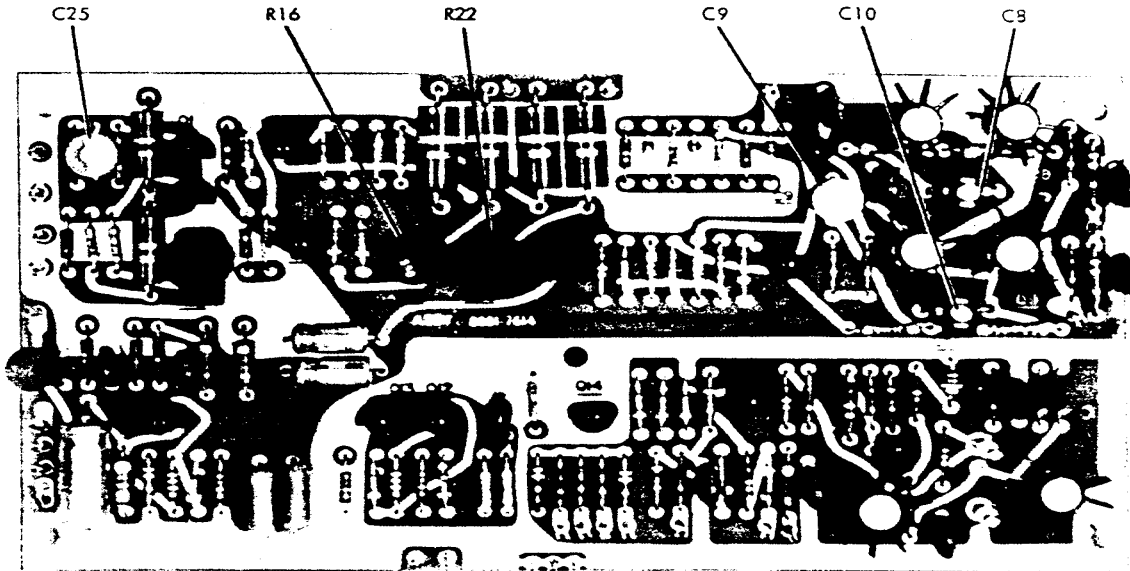

Figure 7. Horizontal sweep, adjustments and test point locations.
- (1) Connect oscillator (A4) to TI EXT HOR input, using cable (B4).
- (2) Set both TI SOURCE switches to EXT.
- (3) Adjust oscillator frequency for 50 kHz and amplitude for 6 divisions of deflection on crt.
- (4) Adjust oscillator frequency until crt displays 4.25 divisions of deflection. If oscillator does not indicate 5 MHz or greater, perform **b** below.
b. Adjustments. Adjust C25 (fig. 7) until crt indicates at least 4.25 divisions of deflection (R).
(1) Set TI controls as listed in (a) through (c) below:
(2) Position trace to start of left vertical graticule line on crt. If sweep length is not 10.5 divisions, perform **b** below (R).
b. Adjustments. Adjust X1 GAIN CAL A1A2R22 (fig. 7) for sweep length of 10.5 divisions.
³Pull X10 Magnifier and adjust A1A2R1C (fig. 7) to align each marker behind each major graticule line.